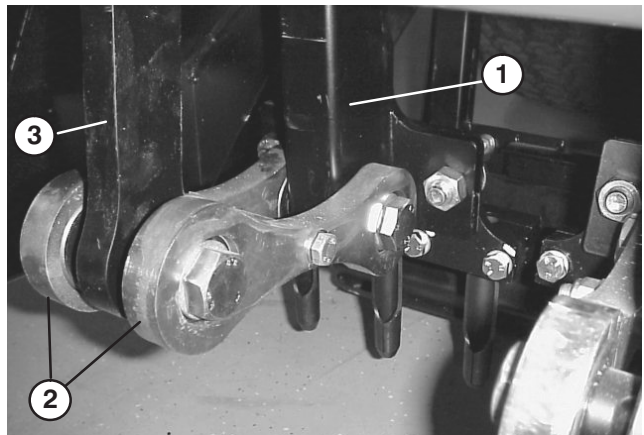

Figure 33
6. Remove fasteners securing bottom of tine arm or rotalink arm to bottom links (Fig. 33). Align tine arm with slot in frame and slide off crank pin.